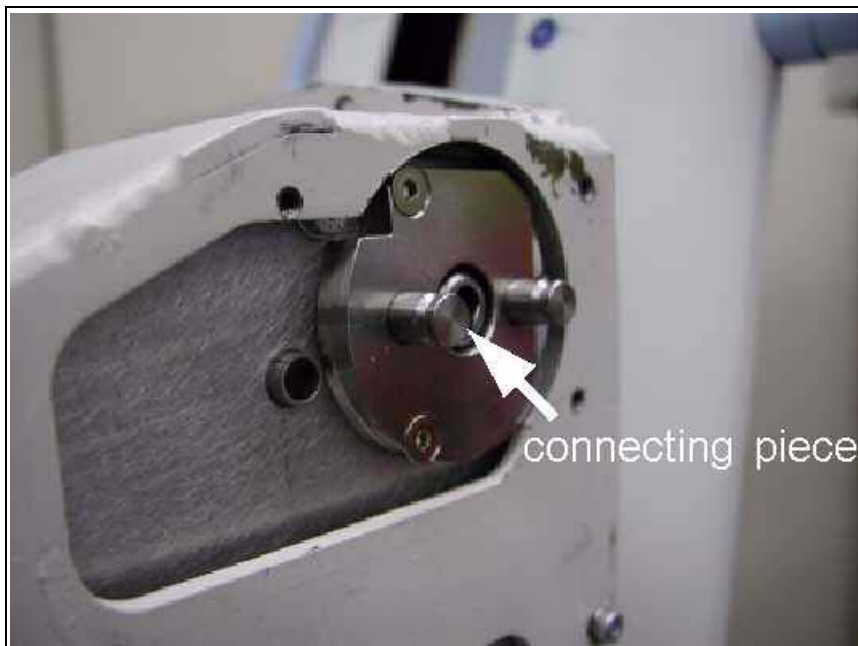

Fig. 2: Centering disk
- Attach the centering disk at the cable module (see \(Fig. 2 / p. 14\)).